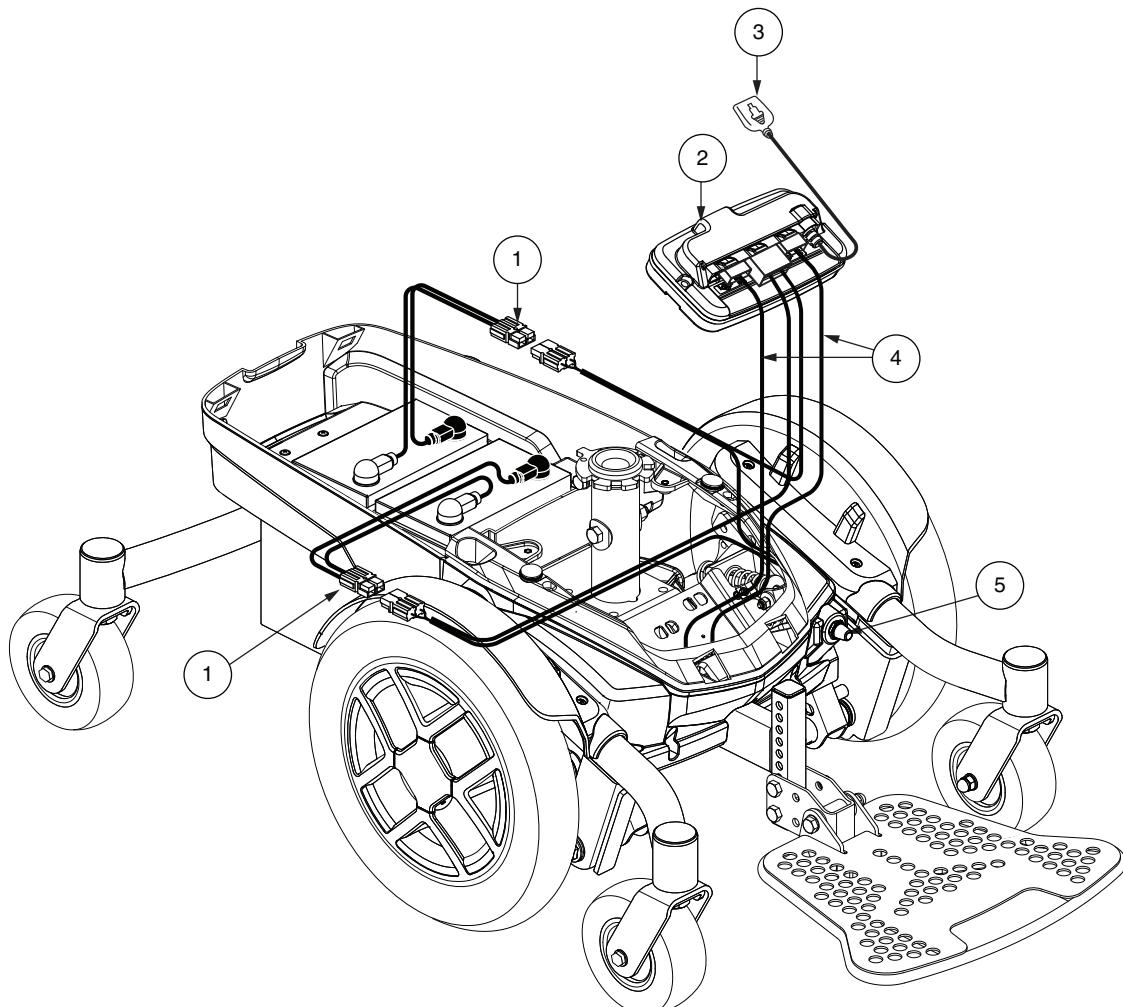

Figure 3. Jazzy EVO 613 with SLA Batteries Electrical Components
The electrical components are located either on or inside the power base. The main circuit breaker is located on the front of the power base. The power module is located under the front cover. **See figures 3 and 4.**
4. Plug the controller harness into the connector on the power base. See figure 3 or 4.